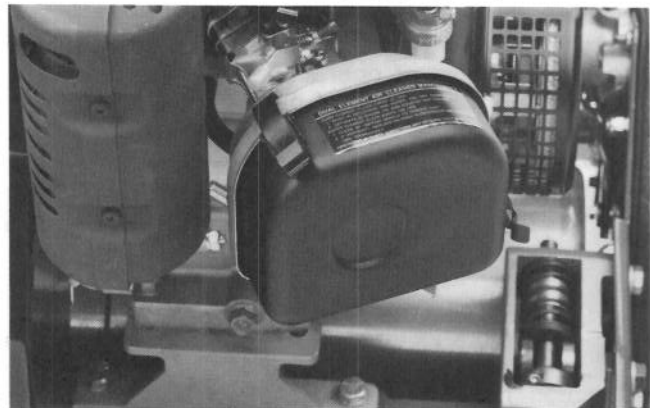

Figure 31
2. Release locking clips and remove air cleaner cover. Clean cover thoroughly (Fig. 31).